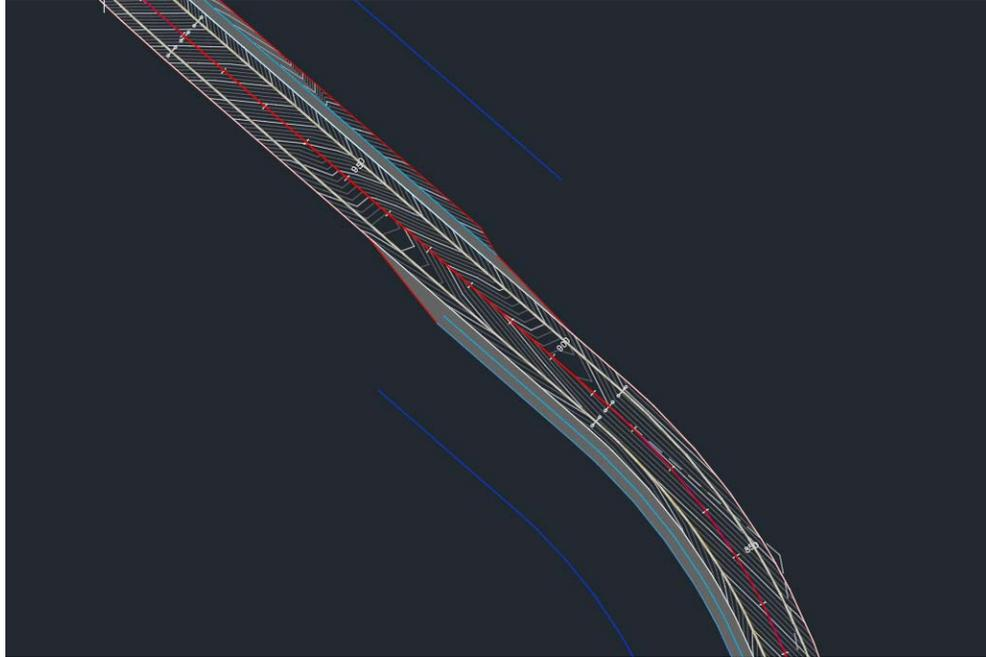

Figure 15 - Crossfall Switch Using Dynamic Offset Profiles
- You should now have a full corridor and swales, constructed using dynamic offset profiles and a single assembly, and it's all dynamic to changes in parent profile (see Figure 15). Link to Screencasts